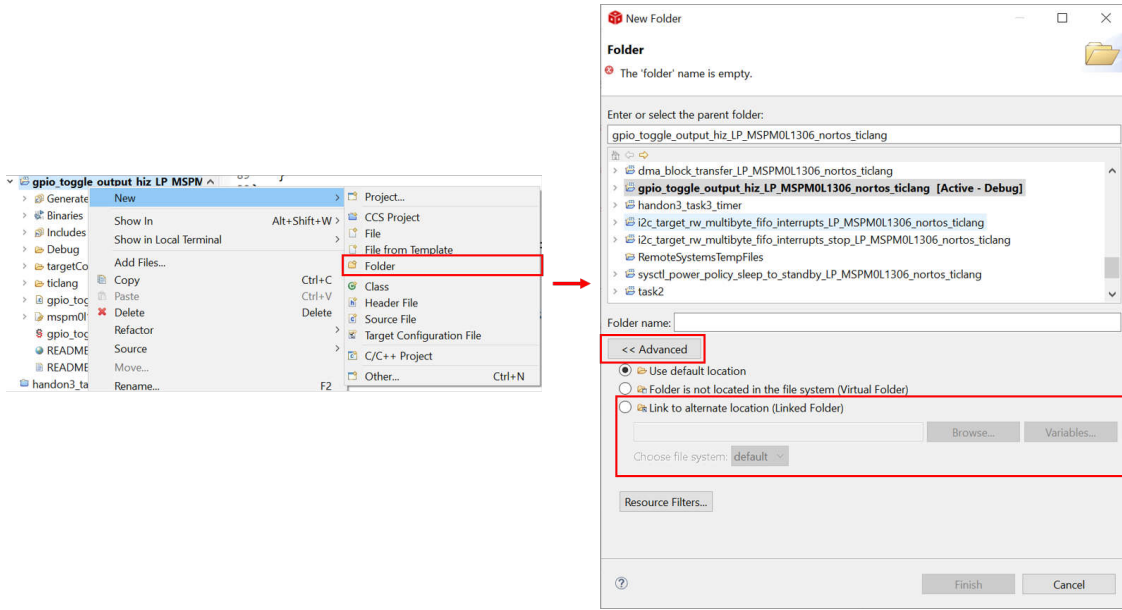

Figure 2-36. Add Relevant File
7. If you want to add third-party libraries, you can follow the steps below. First, you have to add relevant file into your project, as shown if Figure 2-36.